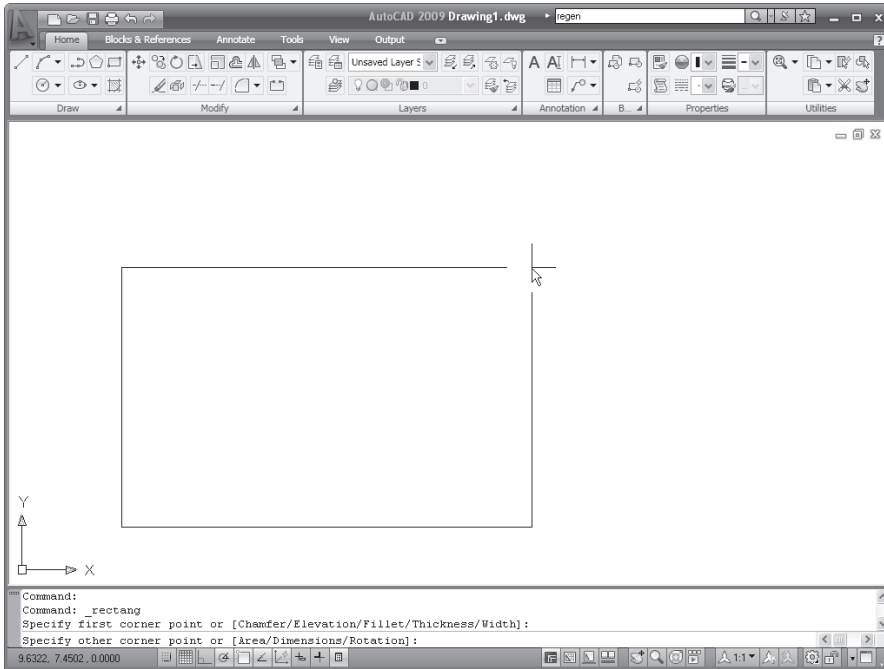

Figure 1.9
- Click another point anywhere in the upper-right region of the drawing area. A rectangle appears (see Figure 1.9). You'll learn more about the different cursor shapes and what they mean later in this chapter.